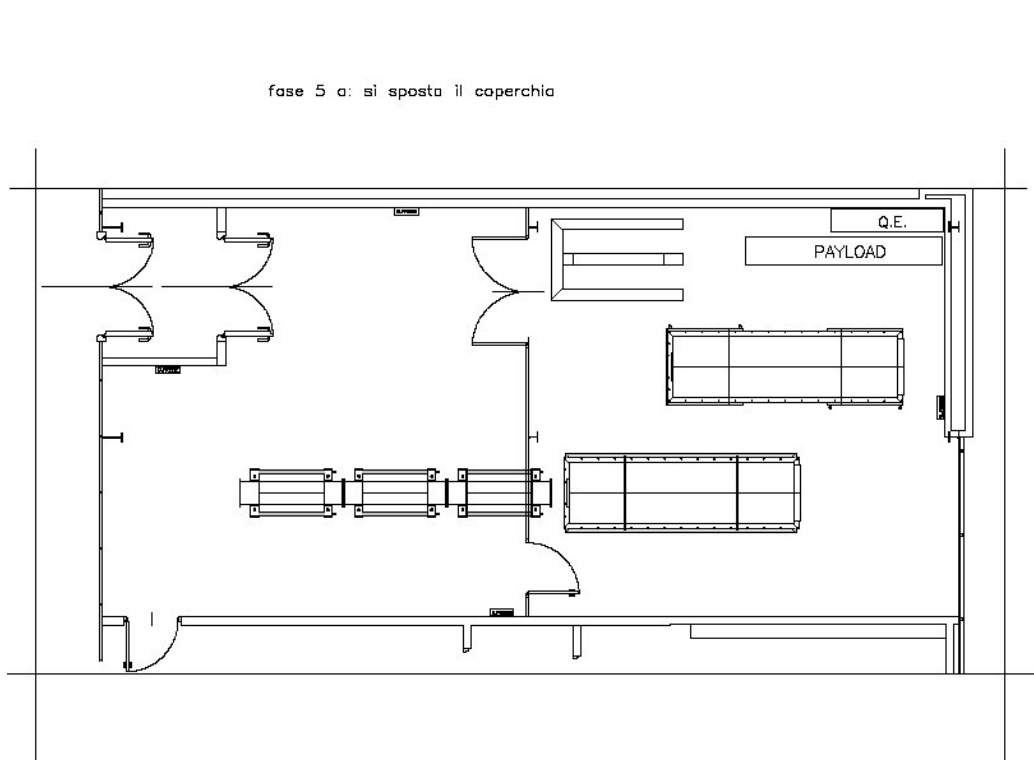
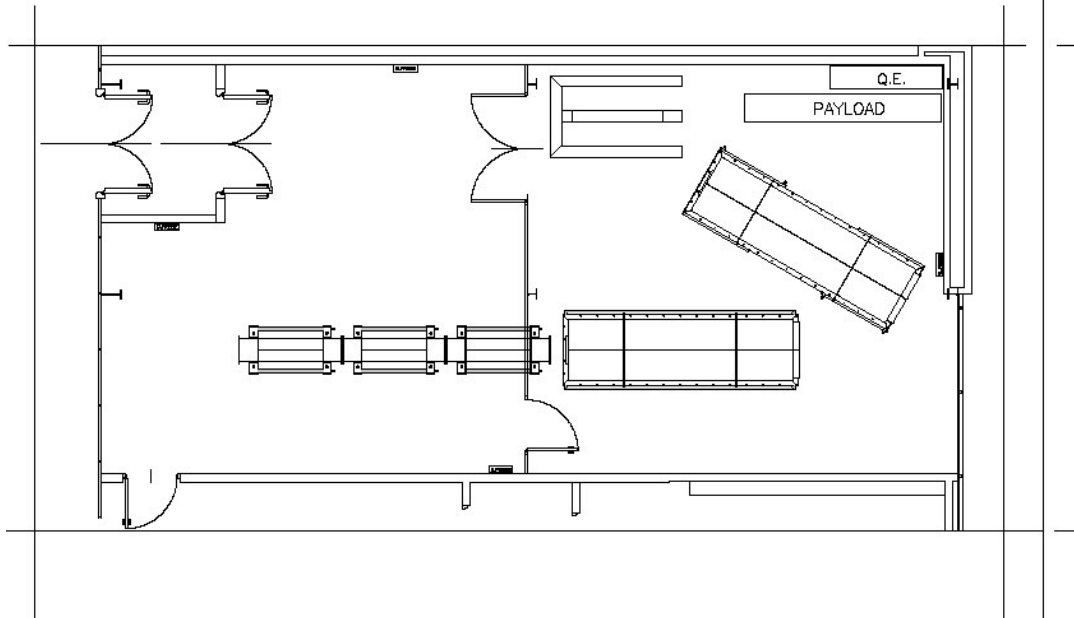
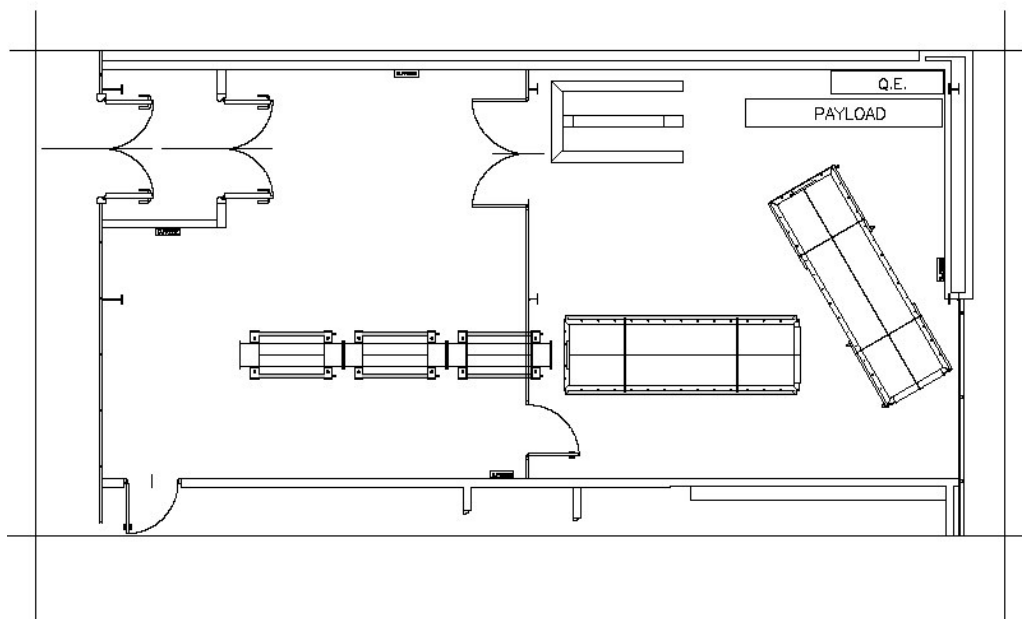
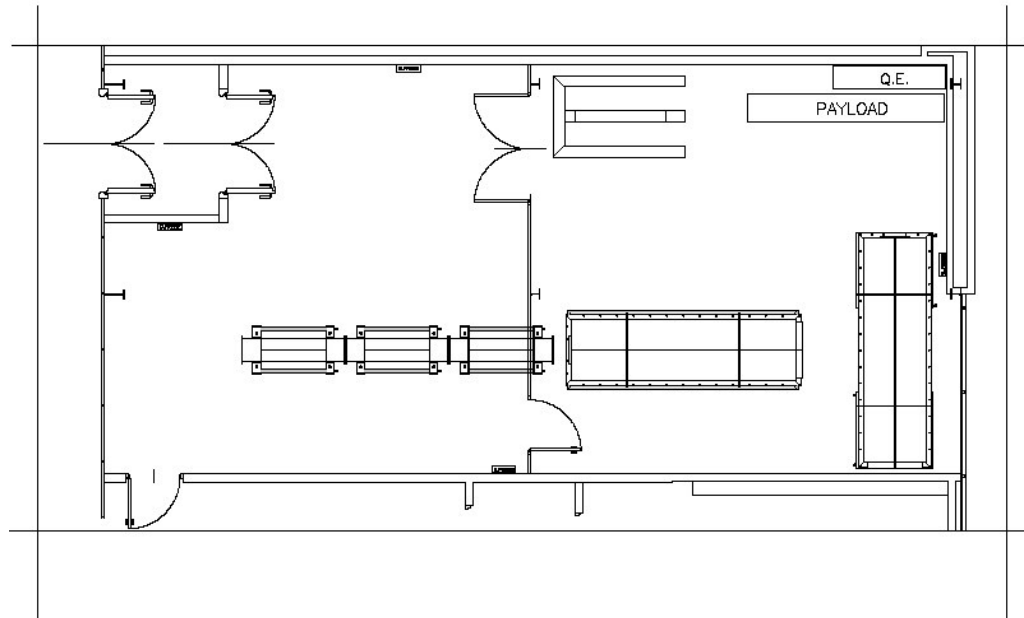

Figure 12: Phase 5a
Figure 13: Phase 5b
Figure 14: Phase 5c
Figure 15: Phase 5d
- Phase 5: Move the cover as shown in Figure 12, Figure 13, Figure 14 and Figure 15.